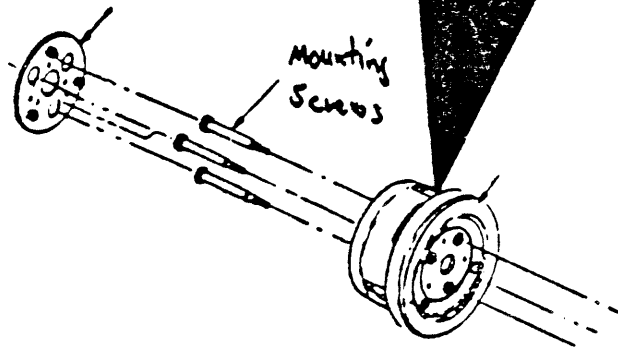

Figure 7 Supply Hub Assembly
- ___ 2. Locate the slotted opening (Figure 7) on the periphery of the reel cover. Insert a small blade screwdriver into the slot and twist to unsnap the hub cover from the hub assembly.